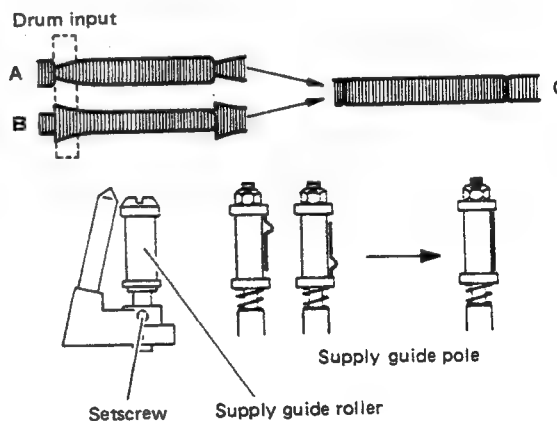

Fig. 2-47 Drum input adjustment
5. Refer to Fig. 2-47. Examples of incorrect waveforms are shown by A and B. Use a slotted screwdriver to adjust the supply guide roller so that the rising portion (drum input portion) of the waveform becomes flat as shown by C.